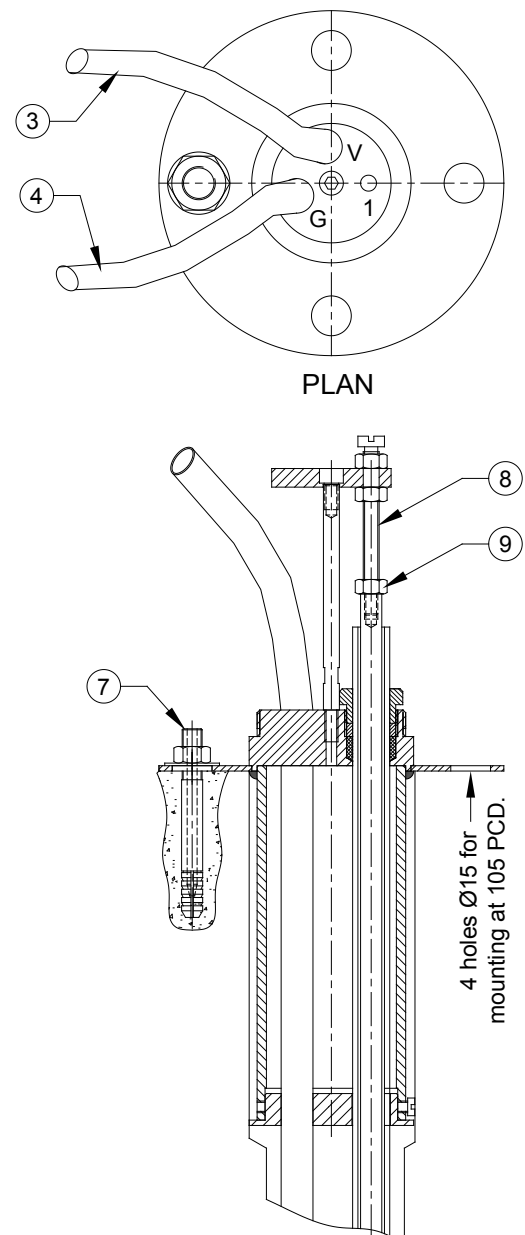

Figure 2.5 – EDS-64UD Assembly
8	Setting screw (Ch. Head) M6x100 (refer Figure 2.5)
9	Hex. Nut M6 (refer Figure 2.5)
guide end of fiberglass rod through corresponding hole in guide plate (5.5 of figure 2.2) to emerge through hole marked '1' on reference/flanged housing top (5.1 of figure 2.2). Fiberglass rod will have to be bent to achieve this. Locate setting screw (8 of figure 2.5) between reference plate (5.8 of figure 2.2) and female connector end of stainless steel/fiberglass rod. Insert setting screw (8 of figure 2.5) through reference plate hole and screw through setting spacer into female connector end. When tightened, reference button will be at a depth of around 25 mm from top of reference plate. In case this distance is to be maintained different, use different length setting spacer (8 of figure 2.5).
NOTE: On side wall and roof where extension is generally expected, it may be desirable to use a 5-10 mm setting spacer (8 of figure 2.5). Similarly, in a vertically down borehole where settlement is generally expected, it may be desirable to use a setting spacer of 40-45 mm.
- 3.2.8 Wrap rags or jute cloth strips soaked in quick setting cement water mix outside flanged housing (5.1 of figure 2.2) to build up approximately 5 mm thick layer. Lift and insert housing in borehole using a to and fro screwing motion sealing the annular space between housing and borehole. Fix wedge anchors ('7' in figure 2.5) in holes drilled earlier for securing flanged housing. Give enough time to let flanged housing set in borehole.
3.2.11 Remove screws (9 of figure 2.5) and setting spacers (8 of figure 2.5). Cut the grout and vent tubes from the root and remove them. Clean reference head assembly properly.